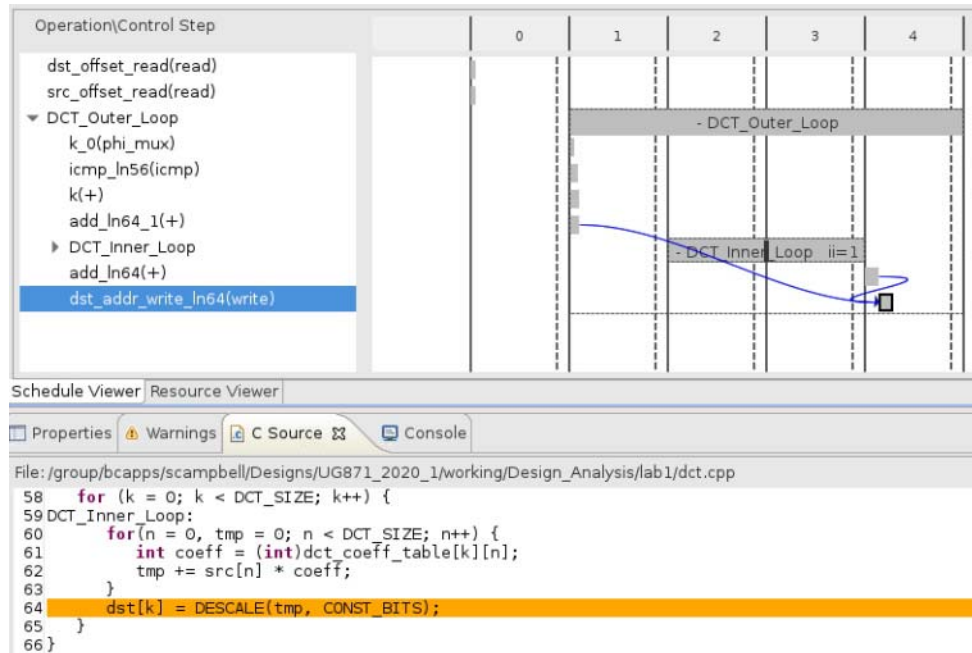

Figure 6-18: DCT Solution2 dct\_1d Schedule Viewer
- In the Performance Profile, click loops `DCT_Outer_Loop` and `DCT_Inner_Loop` to view the loop hierarchy (Figure 6-18).
Figure 6-18 shows that this loop was not flattened because additional operations outside of `DCT_Inner_Loop`, at the level of `DCT_Outer_Loop`, prevented loop flattening. One of the operations that prevented loop flattening is highlighted in Figure 6-18, below.